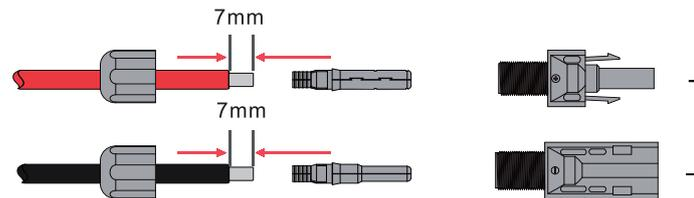

Figure 4.1-3 PV cables and PV plugs
**Setp 1.**Strip the insulation of the PV wire by 7mm,disassemble the cap nut of the connetctor, thread one PV wire through the cap nut of the connector. Repeat this operation with all the PV wires, paying special attention to the polarity of the connector,as shown in Figure 4.1-3.